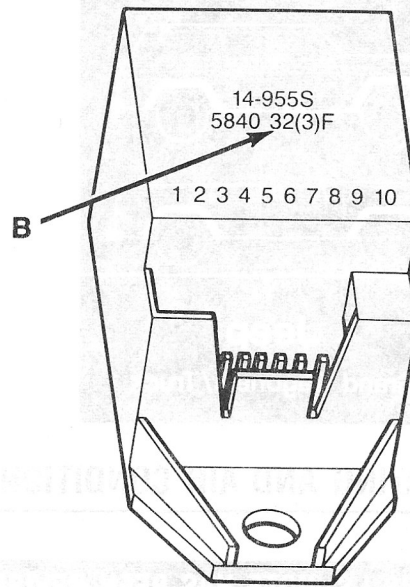

Fig. 2
4. Inspect the housing for correct degree marking (B) (Fig. 2).